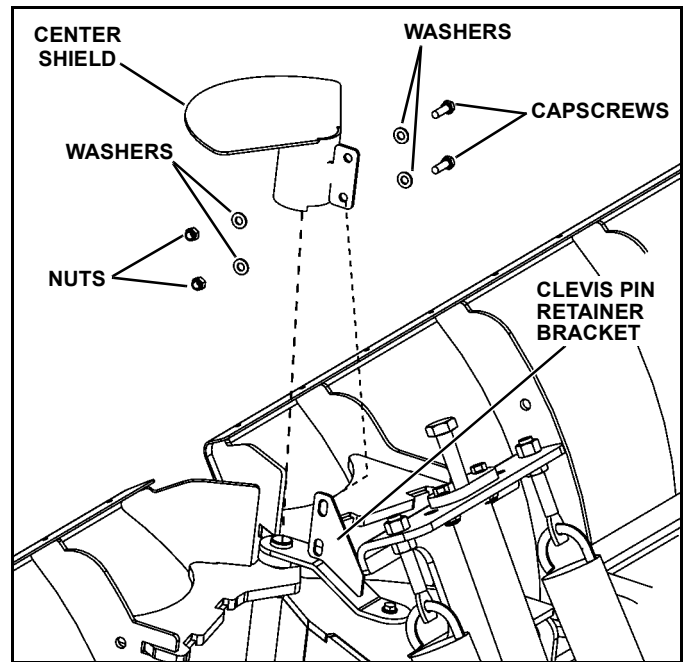

Figure 1-6
11. Install the center shield on the clevis pin retainer bracket, and secure with two 5/16-18 x 1" hex head cap screws (p/n 98009149), four 5/16" flat washers (p/n 98009024) and two 5/16" lock nuts (p/n 98009150) (See Figure 1-6).